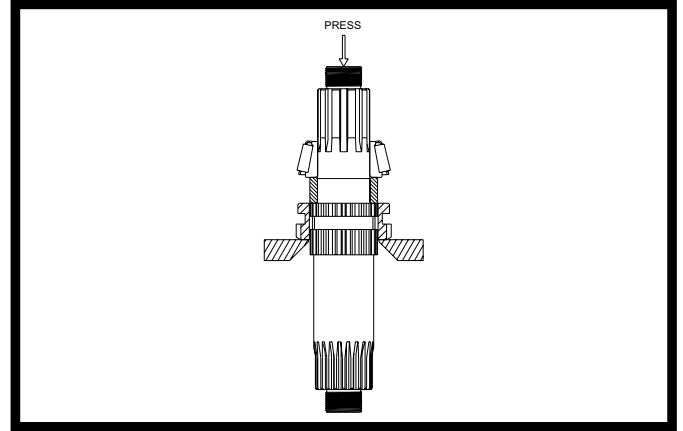

Fig 27
- It is not necessary to remove the remaining bearing cone assembly unless it is to be replaced. If so, proceed as follows. Slip the clutch gear into place on the shaft against the spacer ring. Place the assembly in a press such that the face of the clutch gear opposite the ring is supported and the press arbor bears against the end of the shaft nearest the bearing. See Figure 27. Remove the bearing cone assembly and the ring.